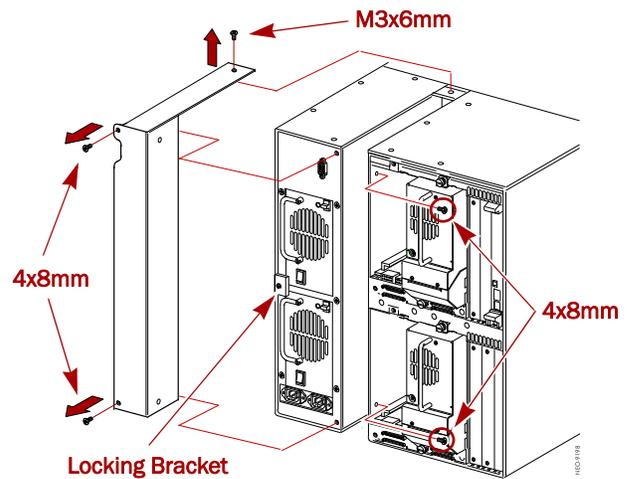

Figure 2. Removing the XpressChannel Cover
- b. Turn the **power supply** switches to OFF (O).
6. If necessary, remove the XpressChannel **cover plate** (Figure 2):